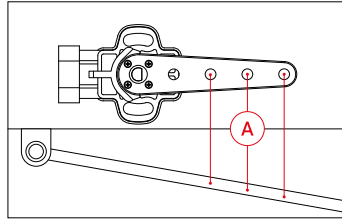

Fig. 23: Attachment point link rod
1. Attach the sensor to the vehicle and set the sensor arm to the middle position. Disconnect the air line from the air spring and lift the suspension using a transmission jack to the lower limit of the suspension's travel. Measure the distance [A] from the sensor arm to the chosen attachment point of the link rod (Fig. 23). Ensure that the attachment points are suitable for the entire travel range of the suspension/vehicle.